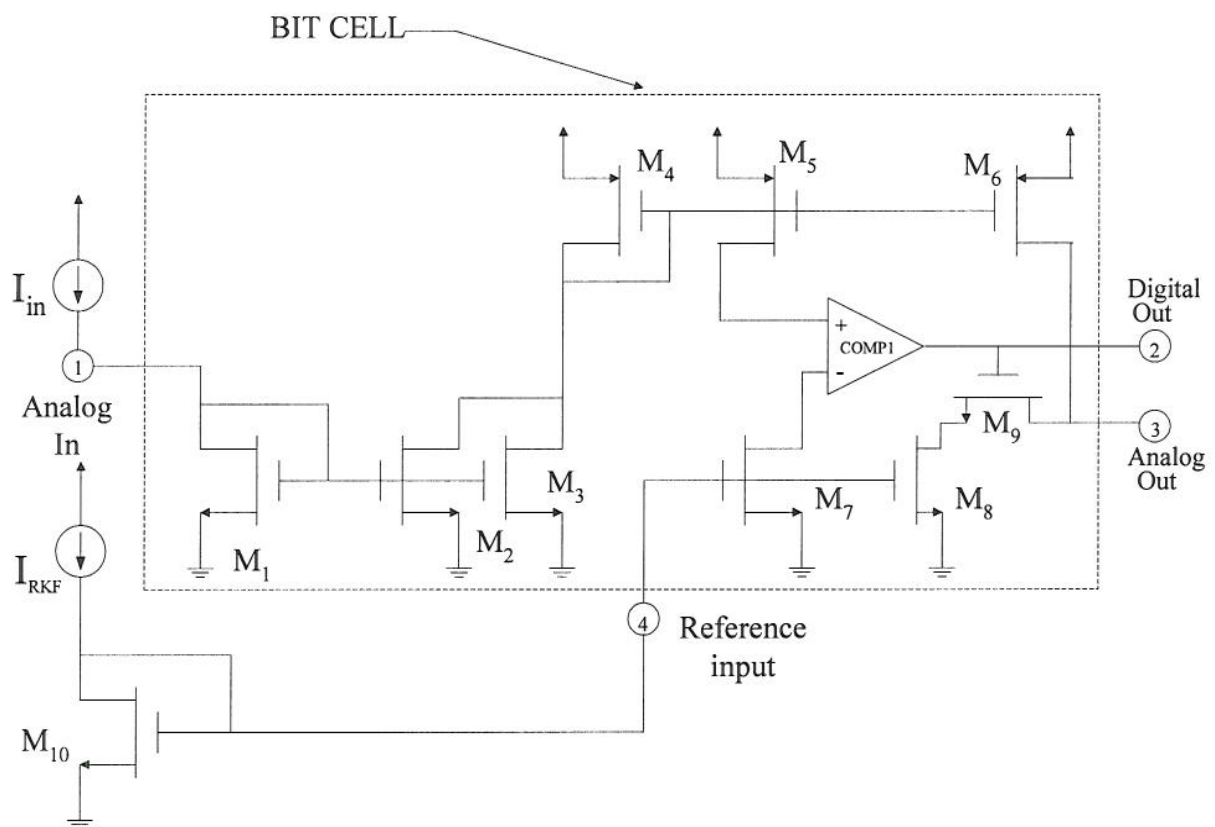

Figure 6
- (c) The circuit shown in Figure 6 is a single bit cell of a current-mode algorithmic analogue to digital converter. Briefly describe the operation of the cell and give reasons why this converter is particularly suitable for mixed analogue and digital VLSI. [5]